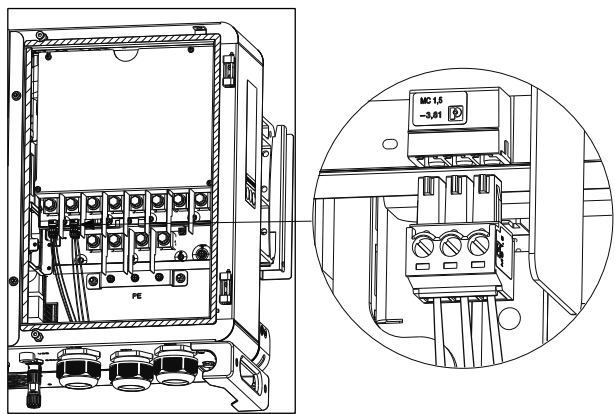

Fig 6.16 BMS-AC terminal
- 1. Open the right cover plate of the inverter, the position of which is shown in Fig 6.16;